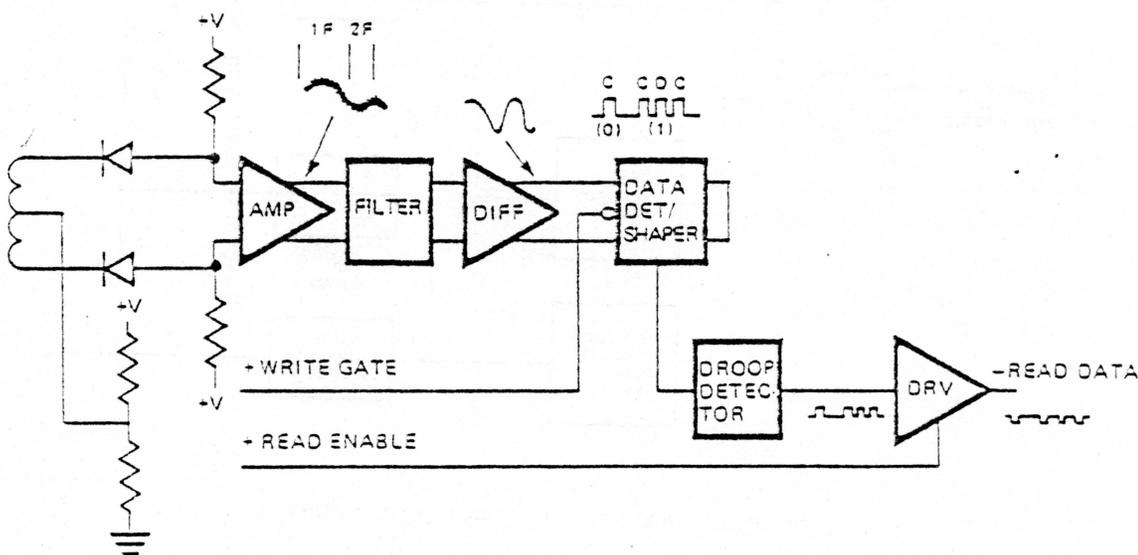

FIGURE 25. READ CIRCUIT FUNCTIONAL DIAGRAM
10.0 READ CIRCUIT OPERATION (FIGURE 25)
10.2 Since a pulse occurs at least once every $3 \mu\text{s}$ and when data bits are present once every $4 \mu\text{s}$, the frequency of the read data varies. The read signal amplitude decreases as the frequency increases. Note the signals on Figure 25. The differential amplifier will amplify the read signals to even levels and make square waves out of the read signals (sine waves).